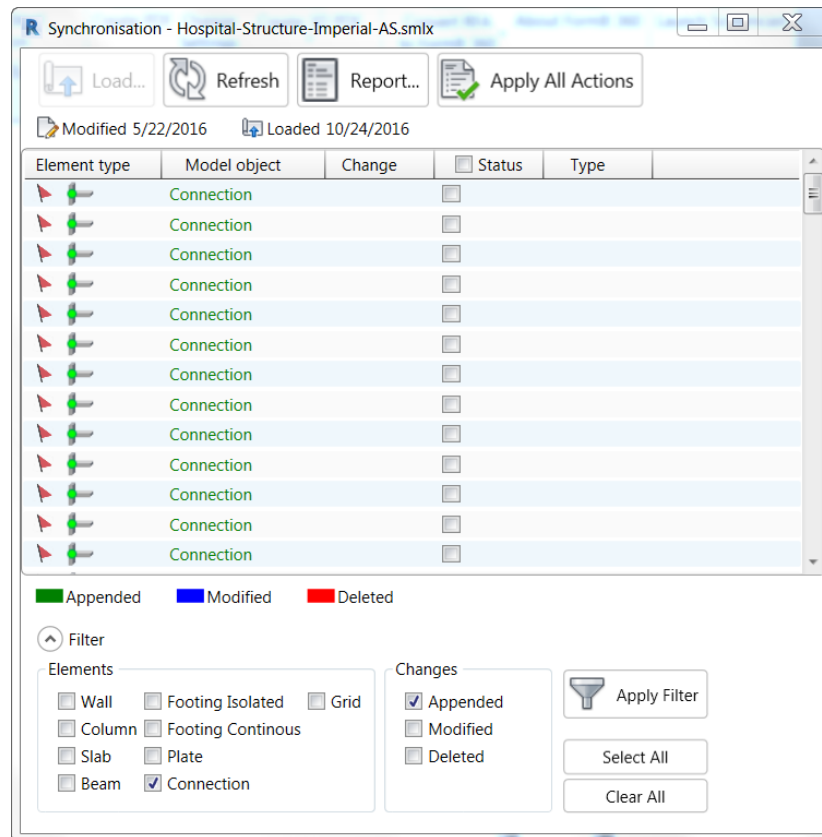

FIGURE 39: THE SYNCHRONISATION DIALOG BOX SHOWING THE APPENDED CONNECTIONS
3. Expand the dialog box by and clear the filter of all the changes, except **Connections** and **Appended**, as shown in Figure 39.